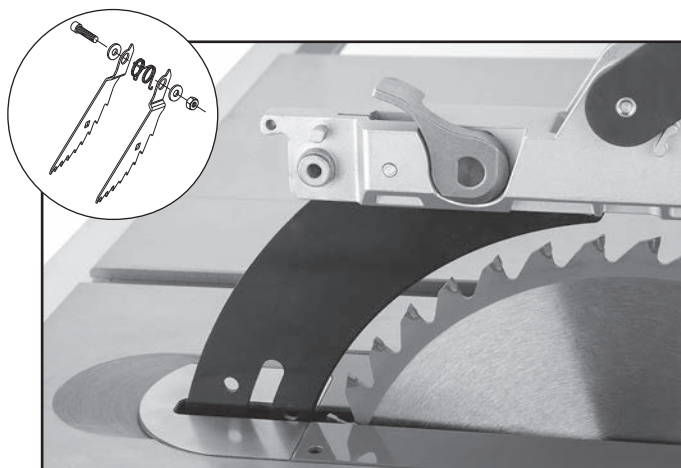

Figure 51. Pawls removed.
2. Remove cap screw, locking hex nut, washers, pawls, and retaining spring from blade guard assembly (see **Figure 51**).